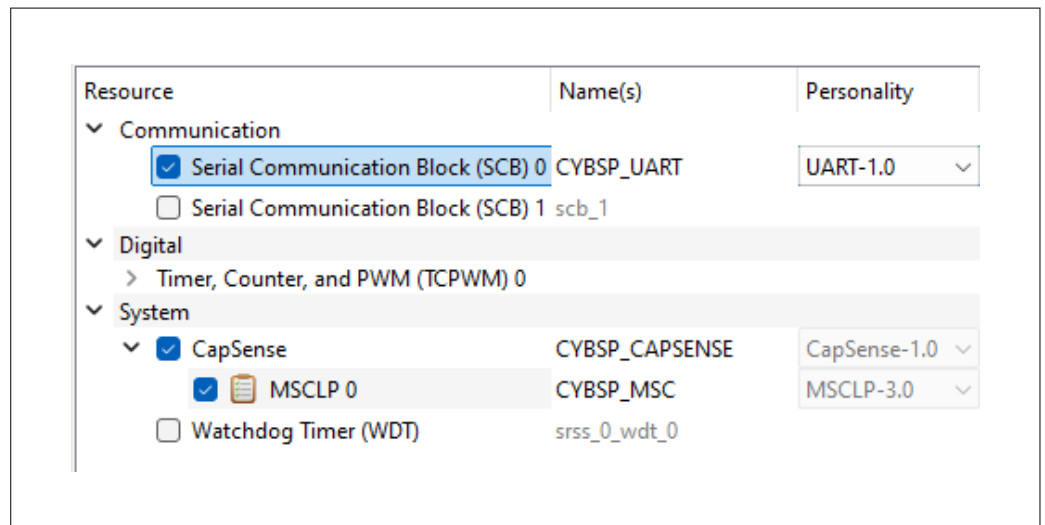
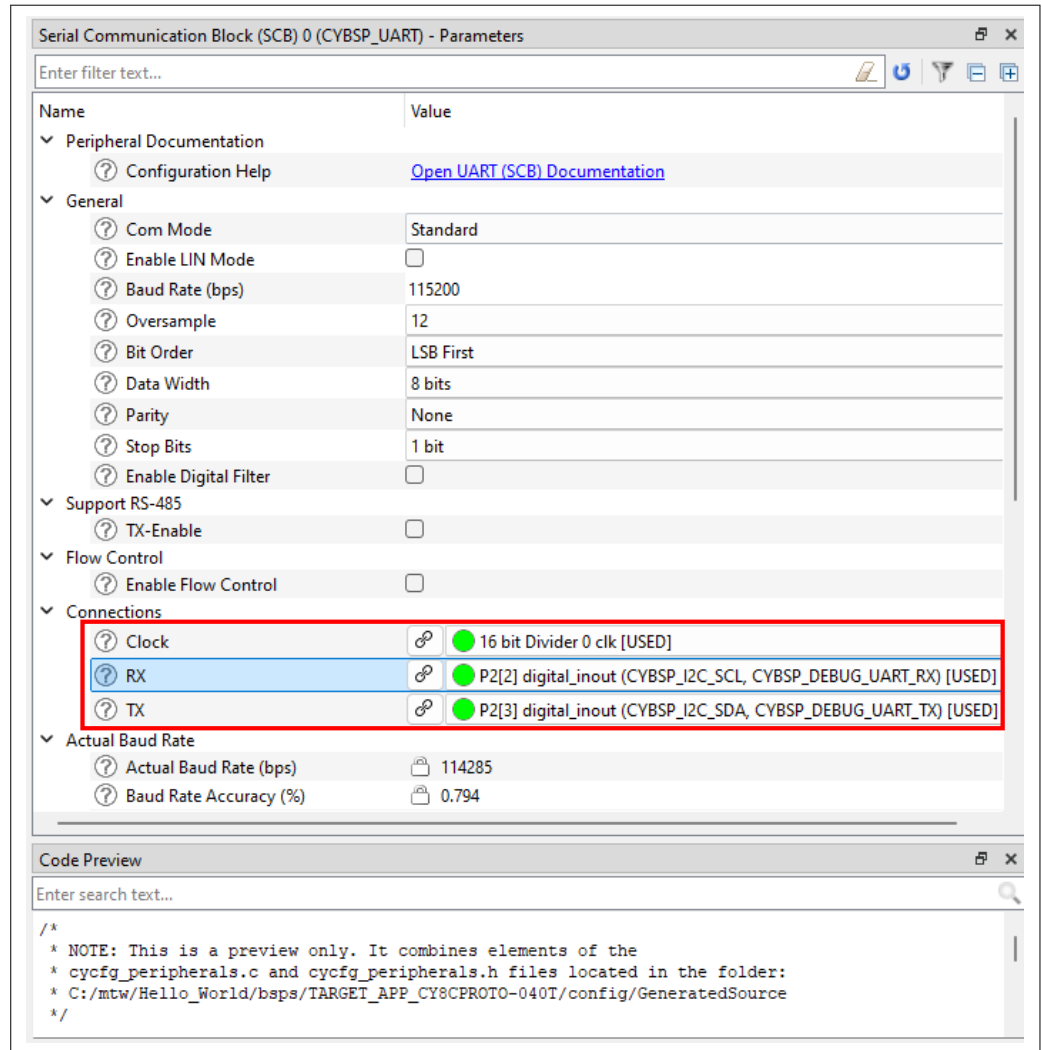

Figure 19 Enabling SCB as UART
Figure 20 Setting UART configuration parameter
- a. Go to the **Peripherals** tab in **Resources Categories** pane and enable **Serial Communication Block (SCB) 0**, set personality as UART-1.0 and the name as "CYBSP_UART". In Figure 19, SCB instance 0 is selected based on Rx/Tx pin required for the kit. As shown in Figure 20, the drop-down of Rx and Tx configuration parameters shows pins supported by SCB 0. See the device datasheet for the pins available for each SCB instance.